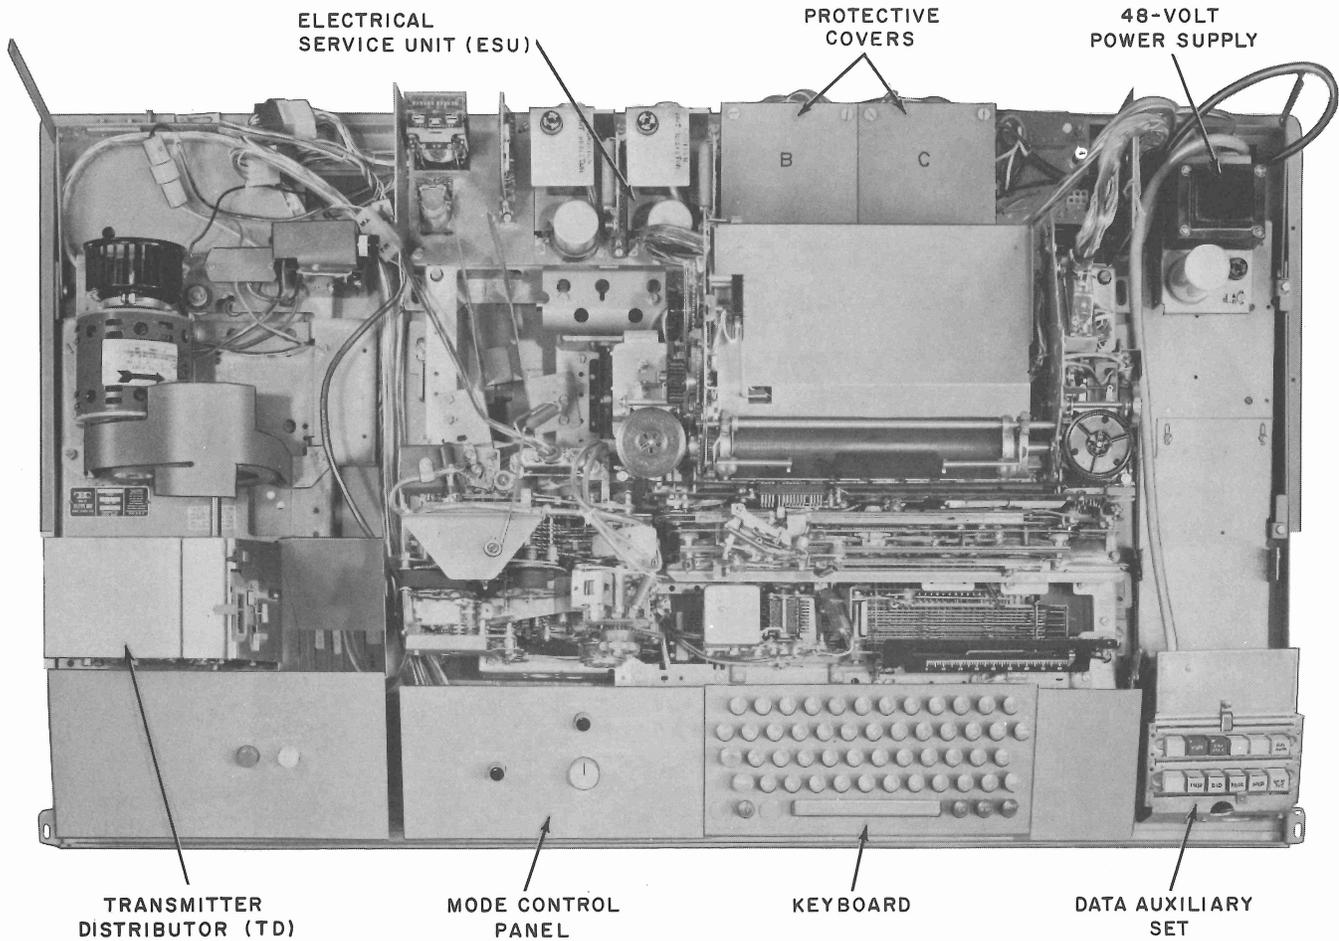

Fig. 11—35 ASR TTY Data Station—Top View With Cover Removed
(1) Perform 3.01 (1) through (4).
(2) Remove the R plug from its connector on the electrical service unit (ESU) (Fig. 11).
(3) Remove the four screws and captive lockwashers that secure the typing unit to the subbase.
(4) Remove the typing unit by lifting vertically and to the right.
- (1) Perform 3.01 (1) through (4).
- (2) Perform 3.02 (1) through (4).
- (3) Loosen four screws on the mode control and keytop faceplate mounting brackets (Fig. 11).
- (4) Remove four post screws at each corner of the keyboard base.
- (5) Disconnect the ground conductor at the right rear of the keyboard base.
- (6) Disconnect the F plug from the connector assembly.
- (7) Raise the right side of the mode control faceplate to facilitate removal of the keyboard.
- (8) Remove the keyboard by lifting it vertically from the TTY.
- (2) Disconnect the U and M plugs from the connector assemblies (Fig. 11).
- (3) Remove the ground conductor from the TD base.
- (4) Remove three anchor bolts that secure the TD to its subbase.
- (5) Remove the TD from the TTY by lifting vertically.
- (2) Remove the two screws at the rear of the protective covers B and C (Fig. 11).
- (3) Loosen the two screws at the front of the protective covers B and C.
- (4) Remove the protective covers by sliding them to the rear.
- (5) Locate and disconnect the 48-volt rectifier wiring from the terminal fields.
- (2) Perform 3.05 (2) through (5).
- (3) Remove two mounting screws at the left front and right rear of the power supply base (Fig. 11).
- (4) Remove the power supply and cable assembly by lifting vertically.